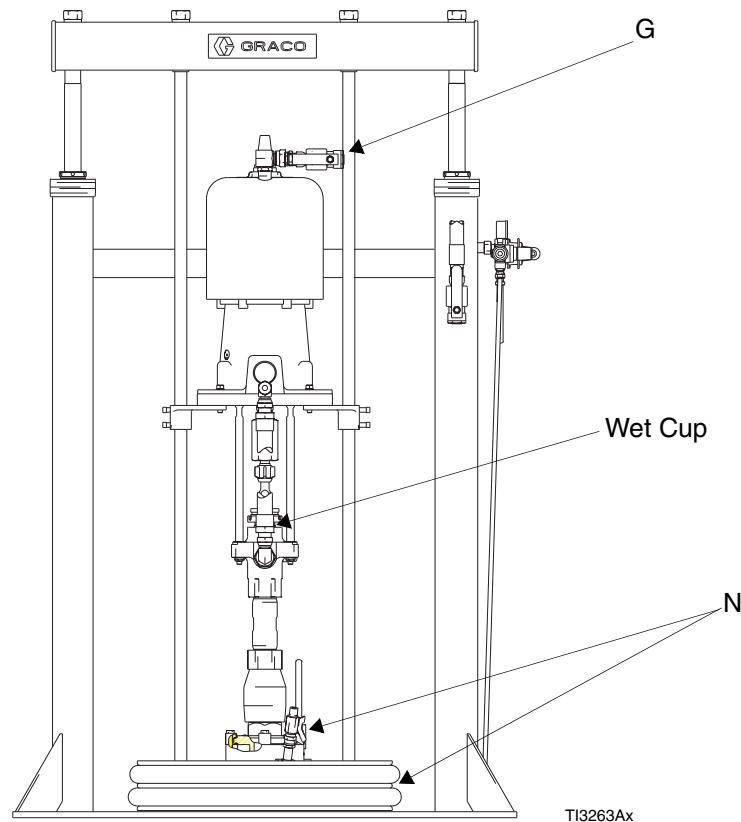
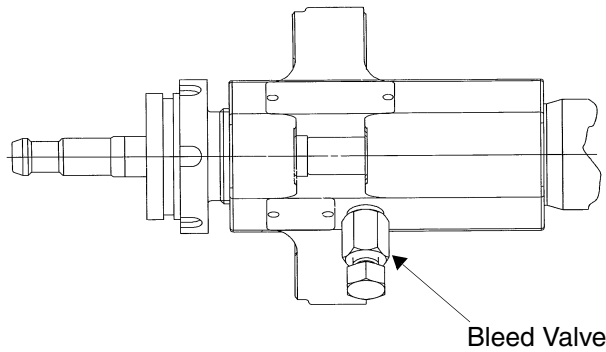

FIG. 7
FIG. 11
1. Place a waste container under the pump bleed valve located behind the displacement pump outlet, FIG. 11. Using an adjustable wrench, open the bleed valve counterclockwise 1/3-1/2 turn.
2. Slowly open the component A air motor shutoff valve (G), FIG. 7. Make sure the pump begins to cycle and material flows from the bleed valve after several cycles of the pump, FIG. 11.
3. Operate the pump until it moves smoothly in both directions with no air popping or erratic movement, then close the air motor shutoff valve (G).
4. Close the bleed valve, FIG. 11.